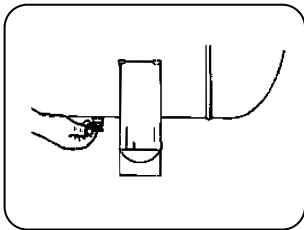

FIGURE 8.1
10. Check safety valve functioning (Figure 8.1) with the product turned off and with the tank without pressure, to avoid accidents.
- Drain the condensate (water) from within the tank through the purger (Figure 8.1).